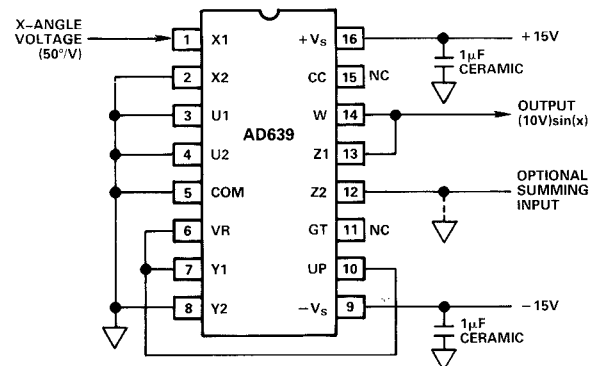

Figure 2. Connections for the Sine Mode with Amplitude Preset to 10V
The AD639 can generate either (1) a low-distortion continuous sine wave from a repetitive triwave input or (2) a high-accuracy sine function for use in computational applications. In most cases, the choice of preset or externally-controlled amplitude will make little difference to distortion or accuracy, and both methods are used in this section. In all of the *normal* modes, the Z2 input can be used either to sum a further signal to the output (or introduce an optional output offset trim). The denominator is set to unity by making  $y = 90^\circ$ , using the  $+1.8V$  output. Figure 2 shows typical connections. The 10V preset is selected, using  $V_r$  as a control input to UP, and the ideal output is  $(10V)\sin(x)$ . In practice, five basic types of error arise:
1. **X-angle scaling error:** The amount by which the angle generated for each volt of X-input differs from  $50^\circ$ . In triwave-to-sinewave (CW) applications this introduces odd-order harmonic distortion, and is indistinguishable from an incorrect triwave amplitude.